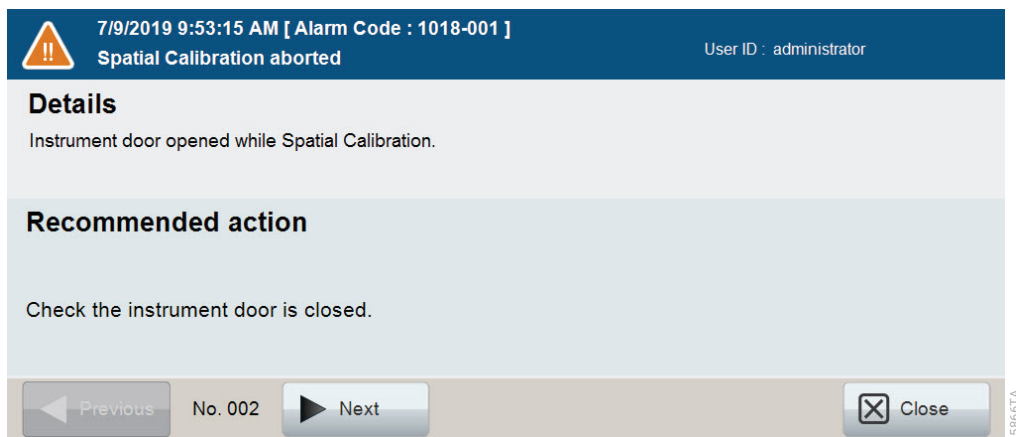

Figure 112. 'Alarm Detail' screen.
3. Select a specific Alarm Log in the list followed by **Details** (becomes active after selecting an Alarm Log) at the bottom of the screen to review the details of that specific alarm (Figure 112).
4. Check the information displayed in the Details and Recommended action section of the 'Alarm Detail' screen (Figure 112). Perform corrective measures required to address the information displayed. See Section 11 for a list of error codes and responses.